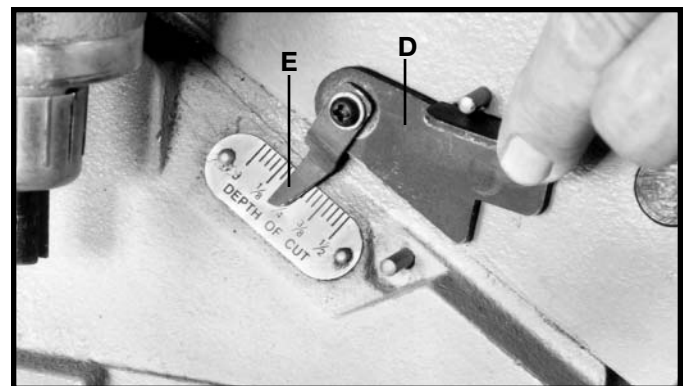

Fig. 36
4. The depth-of-cut of the infeed table (position of table in relationship with the cutting circle) can be indicated with the pointer (E) Fig. 36. Maximum depth-of-cut is 1/2".